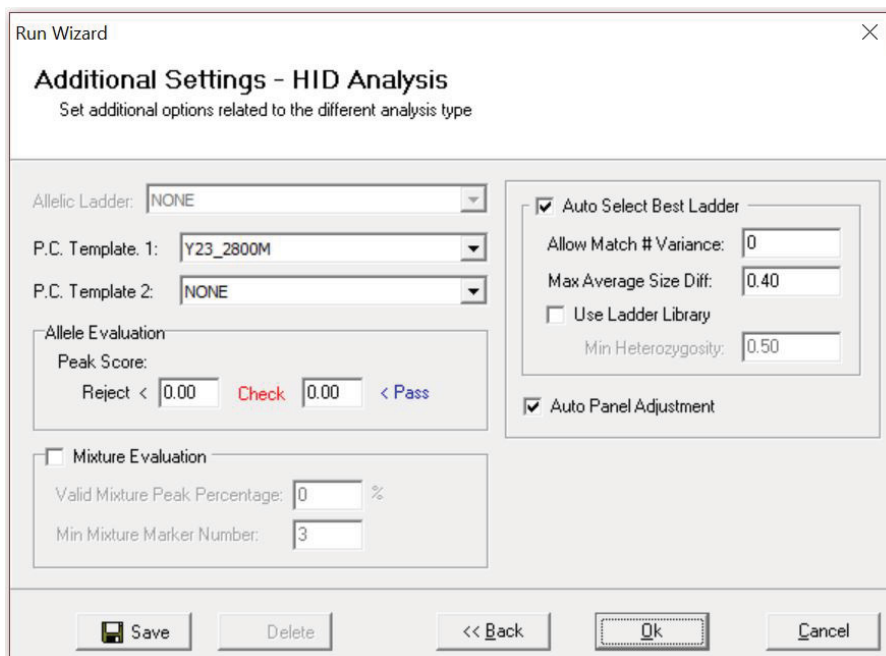

Figure 22. The 'Additional Settings' window.
10. The 'Additional Settings – HID Analysis' window will appear (Figure 22). Select **Y23_2800M** as the P.C. Template 1 and verify that the boxes are checked for "Auto Select Best Ladder" and "Auto Panel Adjustment". The values displayed in the 'Allele Evaluation' dialogue box are defaults and will affect the quality values displayed in the plot settings. For more information on quality values, use of a second positive control and mixture evaluation, refer to the *GeneMarker®HID Software for Spectrum CE Systems User Manual #TM555*. Select **OK** to analyze the raw data.